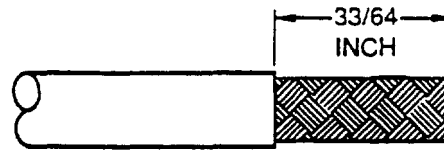

Figure 44. M39029/51 Strip Length
20. **M39029/50 AND /51 COAXIAL CONTACTS.** MIL-C-39029/50 and /51 coaxial contacts are used in MIL-DTL-83723 connectors. Both the M 39029/51-340 coaxial pin contact and the M39029/51-341 socket contact are assembled as follows (Figure 44):